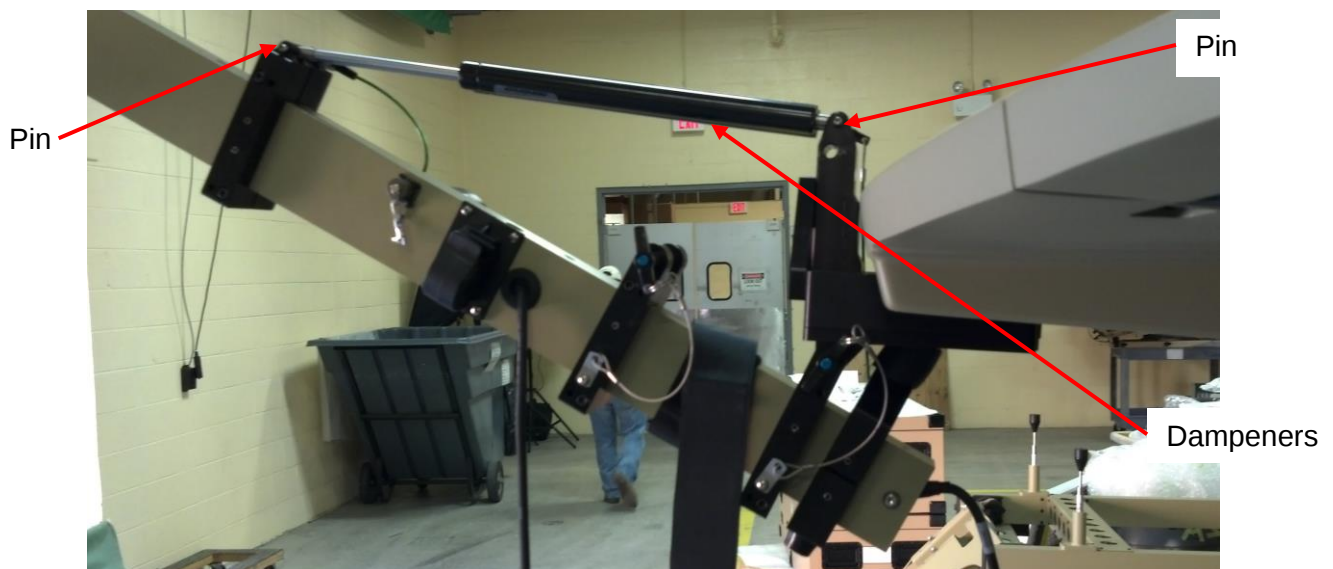

Figure 29. Attachment of Dampeners
5. Attach the dampeners using holes located on both ends via captive ball detent pins as shown in Figure 29.